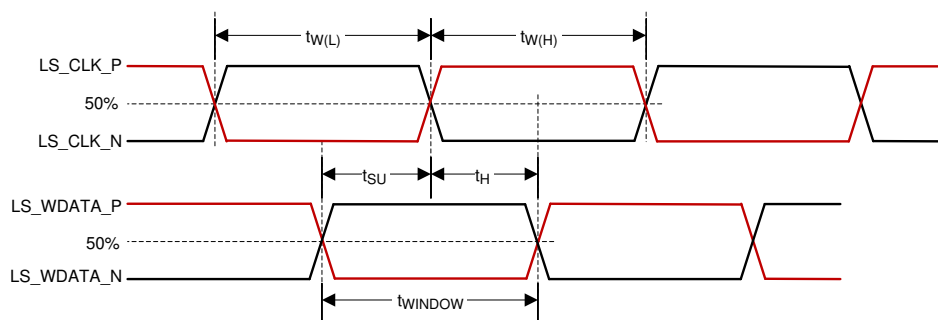

図 6-5. LSIF Timing Requirements
- (3) See Figure 6-5 for pulse duration high and low time for LSIF.
- (4) See Figure 6-5 for setup and hold time for LSIF.